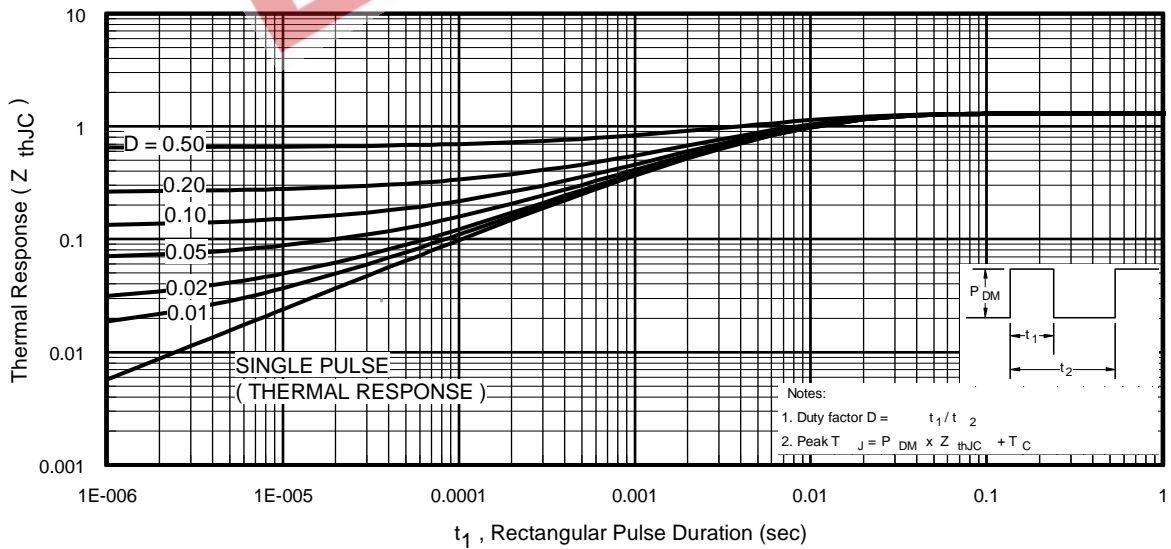
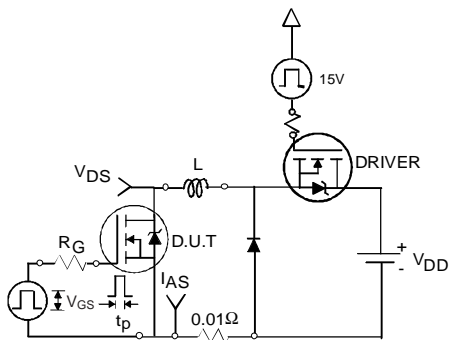

Fig 11. Maximum Effective Transient Thermal Impedance, Junction-to-Case
Fig 12a. Unclamped Inductive Test Circuit
3. Equation below based on circuit and waveforms shown in Figures 12a, 12b.
$Z_{thJC}(D, t_{av})$ = Transient thermal resistance, see figure 11)
- ① Repetitive rating; pulse width limited by max. junction temperature. (See fig. 11).
- ② Limited by T_{Jmax} ; starting $T_J = 25^\circ\text{C}$, $L = 0.71\text{mH}$, $R_G = 25\Omega$, $I_{AS} = 23\text{A}$, $V_{GS} = 10\text{V}$. Part not recommended for use above this value.
- ③ $I_{SD} \leq 23\text{A}$, $di/dt \leq 400\text{A}/\mu\text{s}$, $V_{DD} \leq V_{(BR)DSS}$, $T_J \leq 175^\circ\text{C}$.
- ④ Pulse width $\leq 1.0\text{ms}$; duty cycle $\leq 2\%$.
- ⑤ C_{oss} eff. is a fixed capacitance that gives the same charging time as C_{oss} while V_{DS} is rising from 0 to 80% V_{DSS} .
- ⑥ Limited by T_{Jmax} , see Fig. 12a, 12b, 15, 16 for typical repetitive avalanche performance.
- ⑦ This value determined from sample failure population. 100% tested to this value in production.
- ⑧ When mounted on 1" square PCB (FR-4 or G-10 Material). For recommended footprint and soldering techniques refer to application note #AN-994.